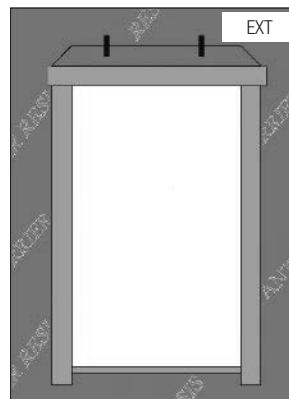

FIG. 9
- G) Cut and apply flashing to both sides and the top of the rough opening. Overlap the top flashing over the side flashing. The flashing should run at least 6" past each side of the rough opening. (Fig.9)